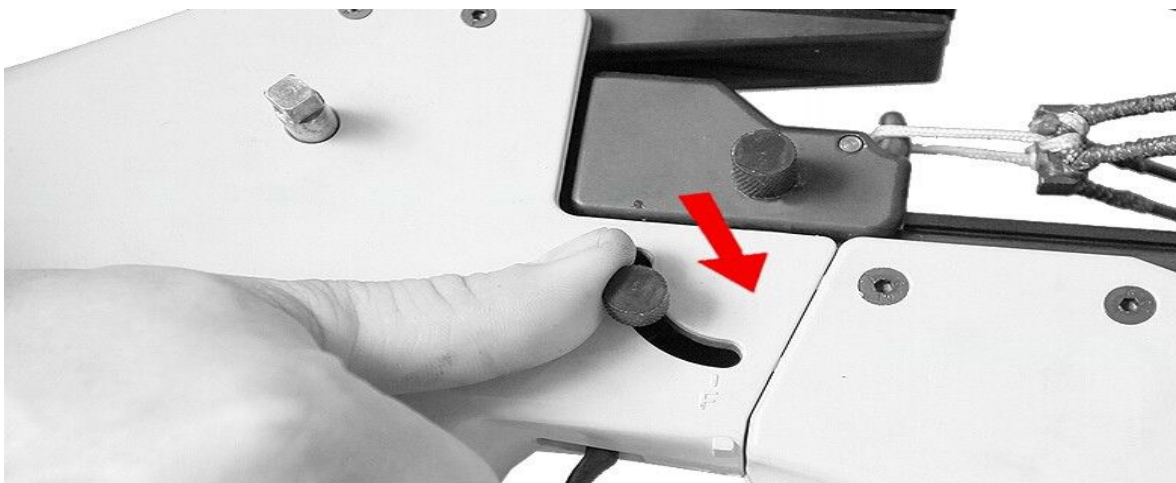

Figure.10
6. Press down the hammer, Ready to fire(Figure10).